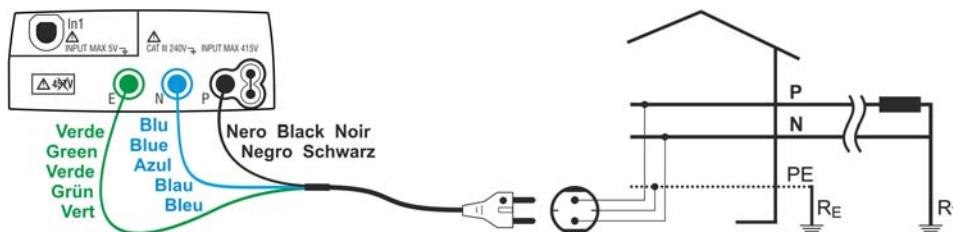
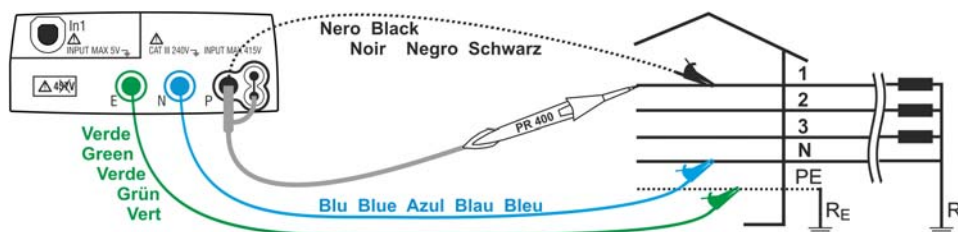
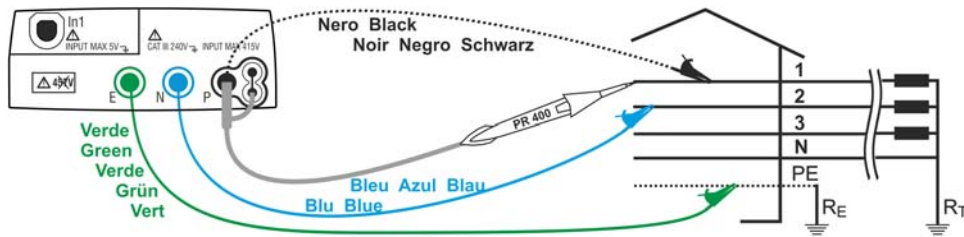

Fig. 15: Instrument connection for 230V single-phase or double-phase P-N line impedance and P-PE fault loop impedance measurement through shuko cable
Fig. 17: Instrument connection for 400V + N + PE three-phase P-N line impedance and P-PE fault loop impedance measurement through single cables and remote probe
Fig. 18: Instrument connection for 400V + N + PE three-phase P-P line impedance measurement by means of single cables and remote probe
5. Insert the green, blue and black connectors of the three-pin shuko cable into the corresponding input leads E, N and P of the instrument. As an alternative, use the single cables and apply the relevant alligator clips to the free ends of the cables. It is also possible to use the remote probe by inserting its multipolar connector into the input lead P. Connect the shuko plug, the alligator clips or the remote probe to the electrical mains according to Fig. 15, Fig. 16, Fig. 17, Fig. 18 and Fig. 19.